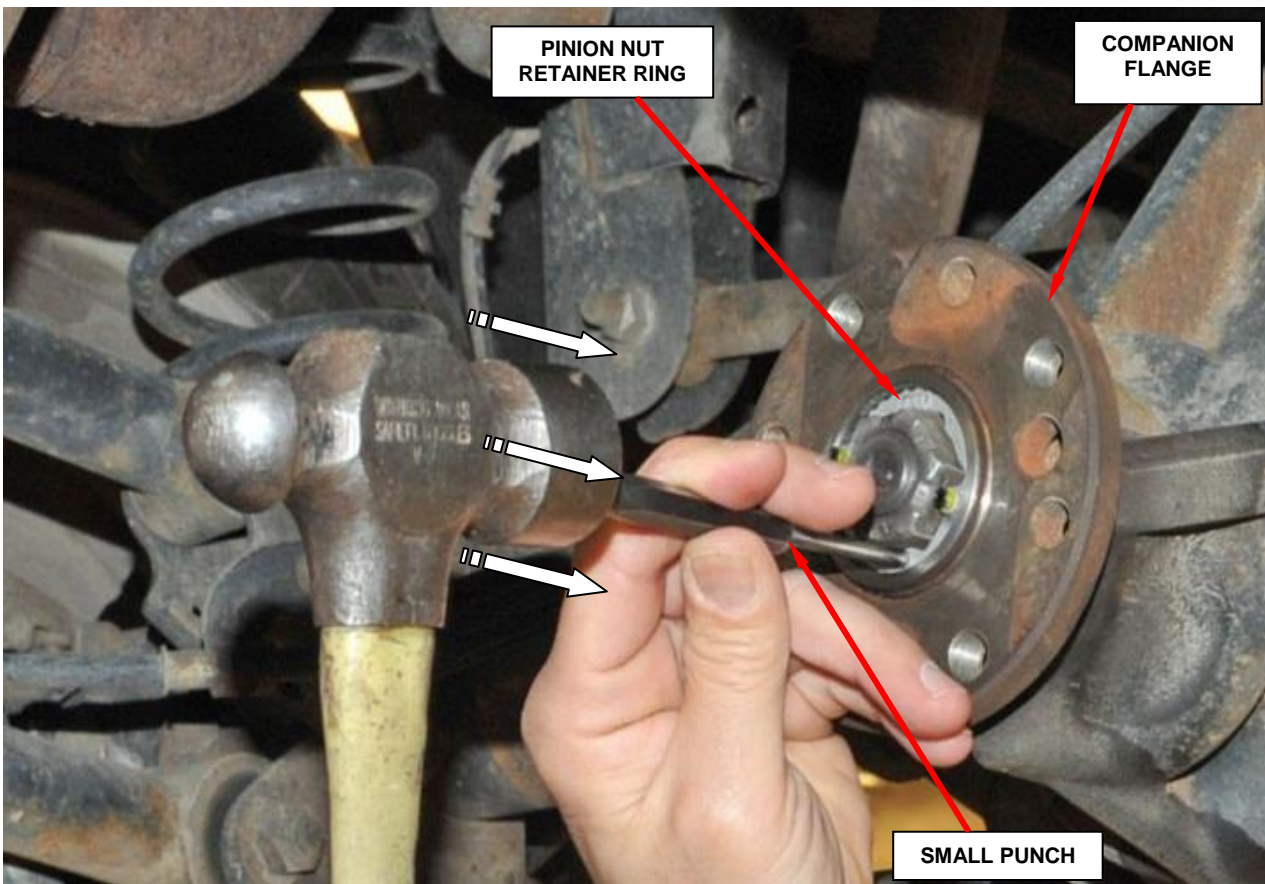

Figure 50 – Gently Tap the Face of the Pinion Nut Retainer Ring to Ensure it is Fully Seated in the Companion Flange Bore
3. Using a small punch, gently tap the face of the pinion nut retainer ring to ensure that it is completely seated in the companion flange bore (Figure 50).